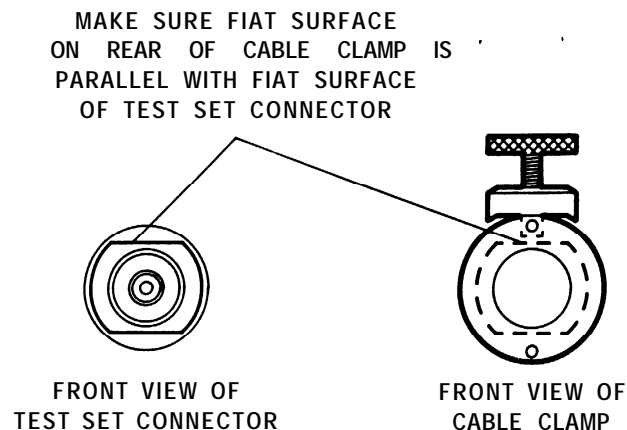

Figure 1. Visually Aligning Clamp and Nut **Flats**
3. See Figure 1. Turn the clamp so that the thumbscrew is pointing up. From there, turn the clamp to visually align the clamp flats with the flats on the test port connector nut. This will minimize rotating the connector in the next step.